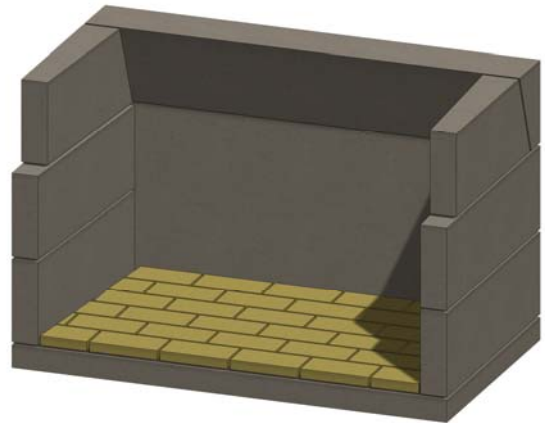

Figure 15. Floor Firebrick
H. Line the firebox, using split firebrick and 1/4-inch mortar joints. Install firebrick on the floor first, with 1/4-inch of Multi-Purpose Ready-Mix or other high temperature mortar. See Figure 15.